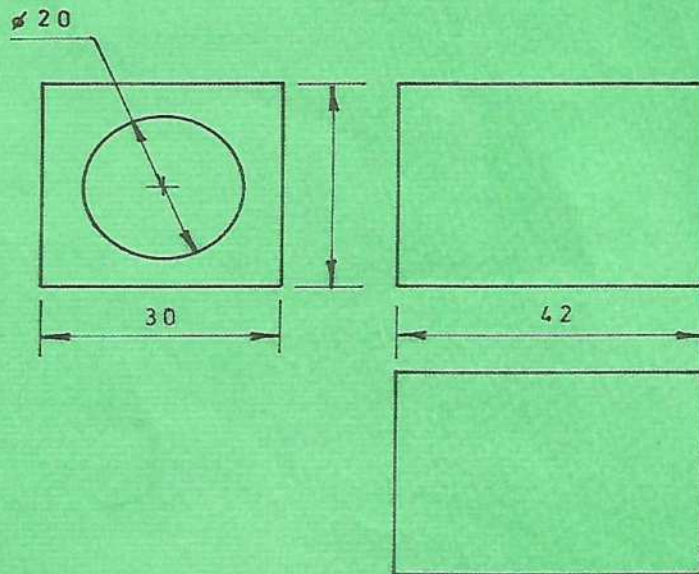

Fig. 9
9. Figure 9 shows orthographic views of a hollow object.